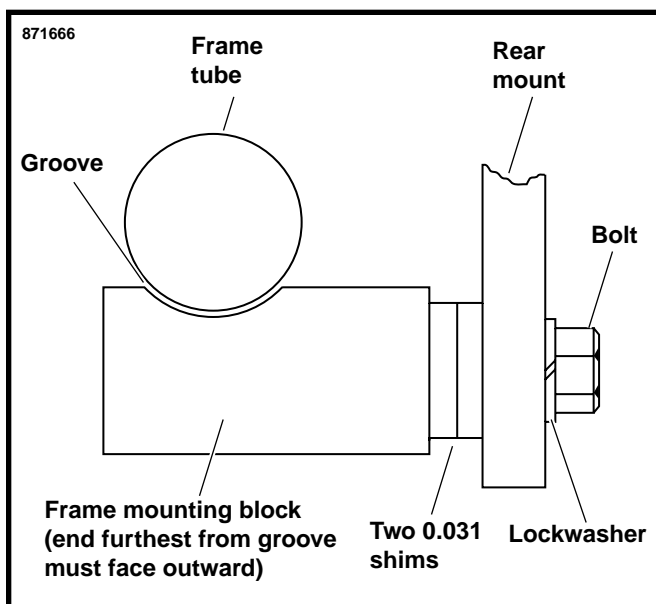

Figure 6. Positioning Mounting Block
The frame mounting block must be positioned as shown in Figure 6 or the block could interfere with rear fork travel.
8. See Figure 6. Attach the frame mounting block and two 0.031 in. shims (23) to the rear mount assembly (1) with bolt (20) and lockwasher (22). Tighten bolt finger tight.